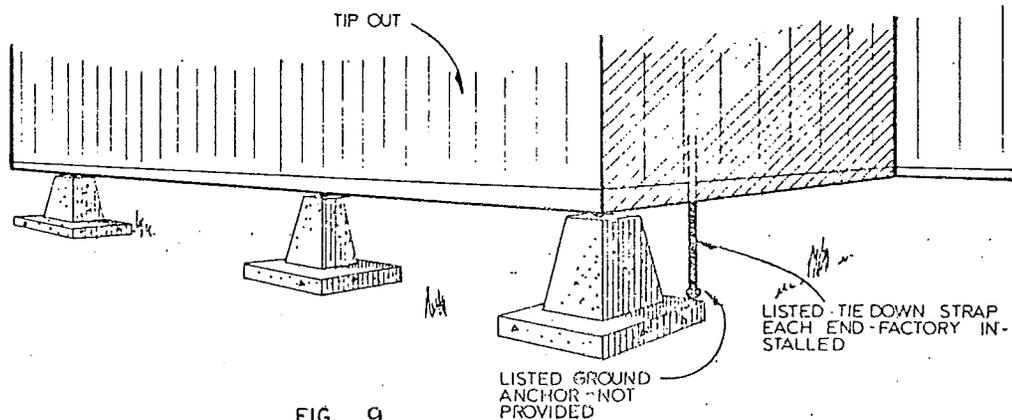

FIG. 9
8. The tip-out must be tied down. See Figure 9 for tip-out tie-down information.